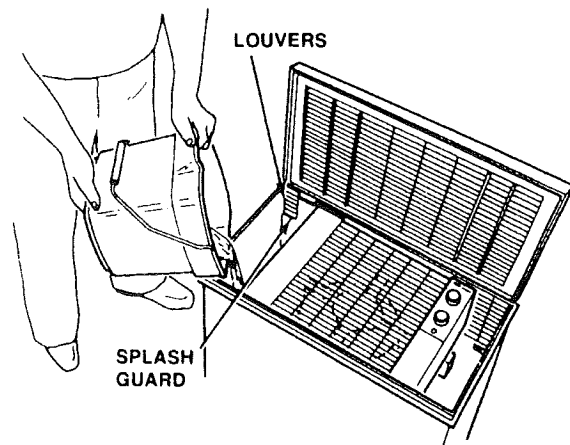

Figure 9
6. Pour water into humidifier from the left side (opposite the controls). (See Fig. 9)
7. Fill tank with clean water up to FULL indicator label, located inside the housing on the left rear panel, (See Fig. 9) by using a bucket.